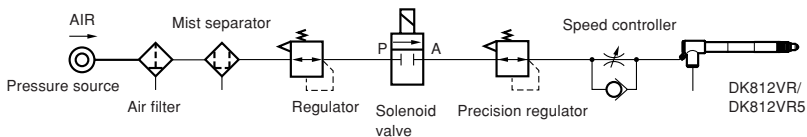

Fig. 1 Air-pass system
- In operating the feeler through the air feed port, use such an air-pass system as shown in Fig. 1 to enable air driving. The suitable air pressure is approximately 0.025 ± 0.01 Mpa. Use a precision regulator (such as IR2010 by SMC or equivalent) to control the air pressure.
- If the spindle ejection speed is too fast, an error may appear on the display the moment that the workpiece is touched. In this case, use a speed controller as shown in Fig. 1 to adjust the spindle speed.